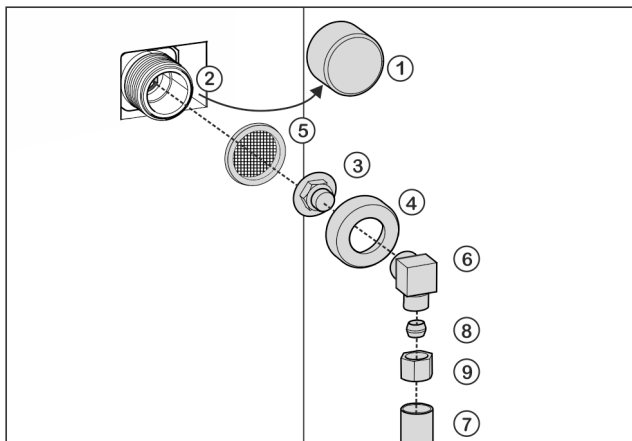

Fig. 23
- ▶ Remove cap *Fig. 23 (1)* from solenoid valve *Fig. 23 (2)*.
- ▶ Insert coupler *Fig. 23 (3)* into union nut *Fig. 23 (4)*.
- ▶ Insert the filter *Fig. 23 (5)* with the recess pointing down towards the coupler *Fig. 23 (3)*.
- ▶ Screw the union nut *Fig. 23 (4)* by hand onto the thread of the solenoid valve *Fig. 23 (2)* until it is firmly in place.
- ▶ Screw on angle piece *Fig. 23 (6)*.
- ▶ Connect the water pipe *Fig. 23 (7)* (e. g. 1/4" OD copper pipe) with the clamp ring *Fig. 23 (8)* and nut *Fig. 23 (9)* to the elbow connector *Fig. 23 (6)*.
- ▶ If necessary: Fasten the water pipe *Fig. 23 (7)* to the housing with the guide clip.
- ▶ Put angle piece *Fig. 23 (6)* to one side.
- ▶ Connect the water pipe *Fig. 23 (7)* (e. g. 1/4" OD copper pipe) with the clamp ring *Fig. 23 (8)* and nut *Fig. 23 (9)* to the coupler *Fig. 23 (3)*.